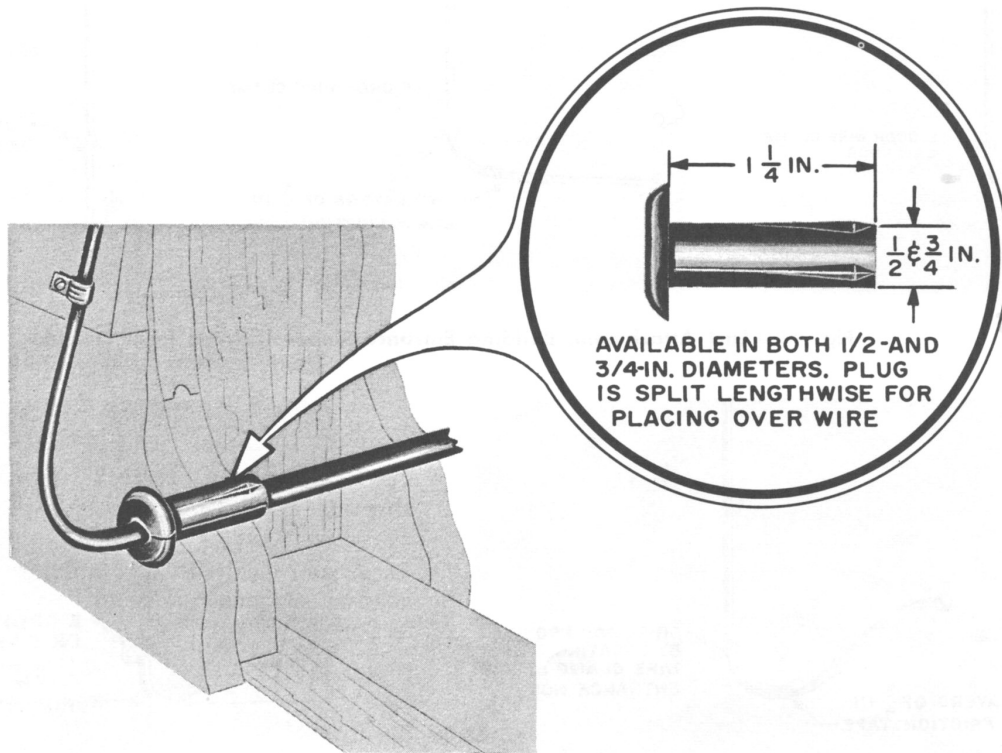

Fig. 19 — B Entrance Plug
13.02 The B entrance plug (Fig. 19) is intended primarily for use with NP, C, or E drop wires and is furnished in $\frac{1}{2}$ - and $\frac{3}{4}$ -inch diameter sizes.